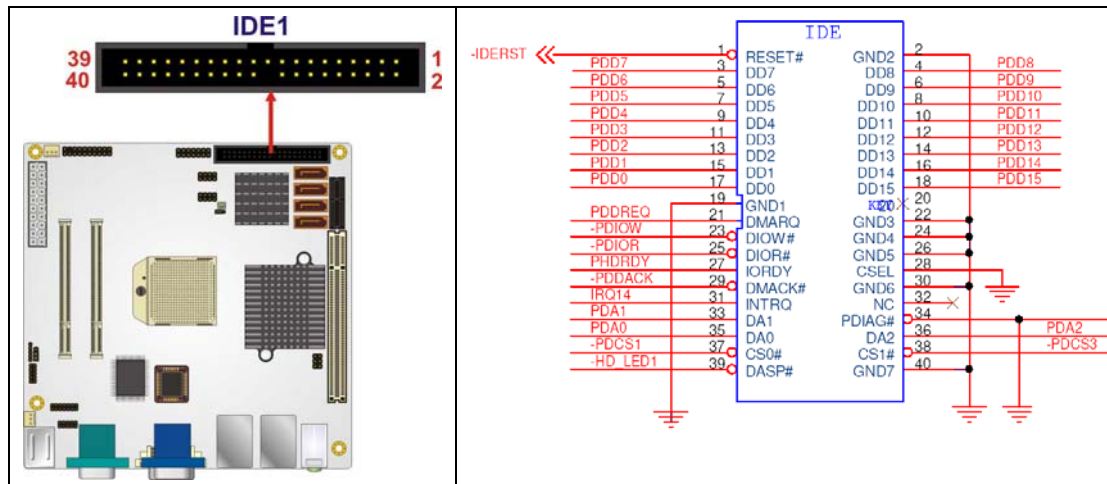

Figure 4-6: IDE Device Connector Locations
- CN Location:** See Figure 4-6